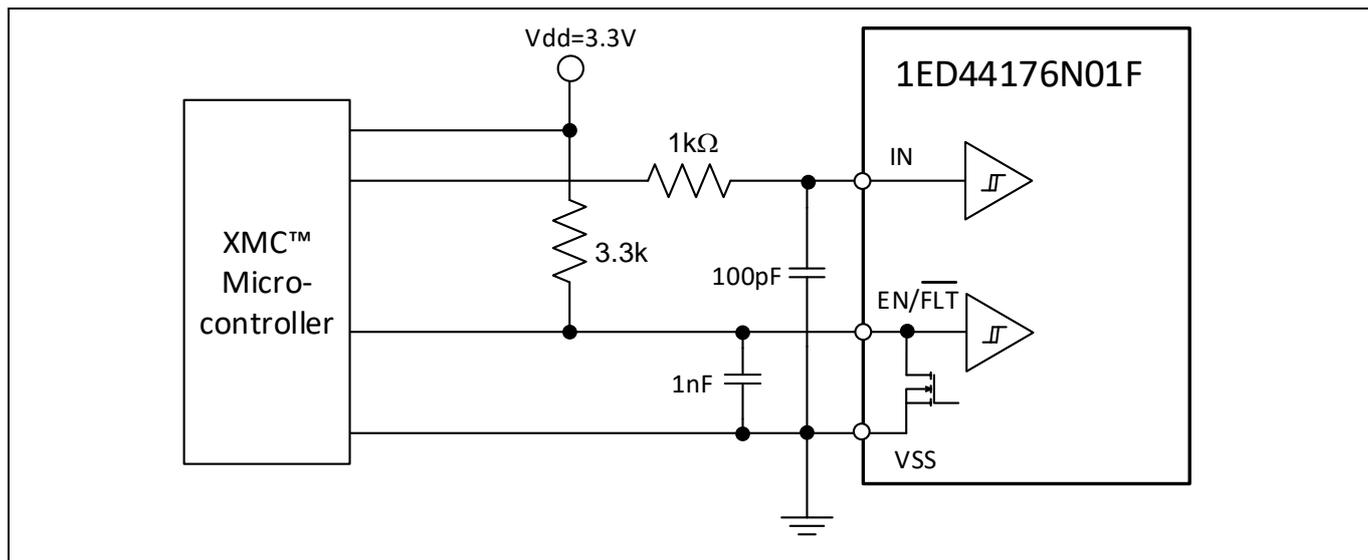

Figure 3 Recommended micro-controller I/O interface circuit
- To prevent signal oscillations, an RC coupling is recommended as illustrated in Figure 3.
Figure 3 shows the I/O interface circuit between a micro-controller (μC) or digital signal processing (DSP) and the 1ED44176N01F. The 1ED44176N01F input logic is active-high. The $\text{EN}/\overline{\text{FLT}}$ output is an open-drain configuration. This signal should be pulled up to high by an external logic power supply with a pull-up resistor. A 3.3k pull-up resistor is recommended if the external logic power supply is 3.3 V.